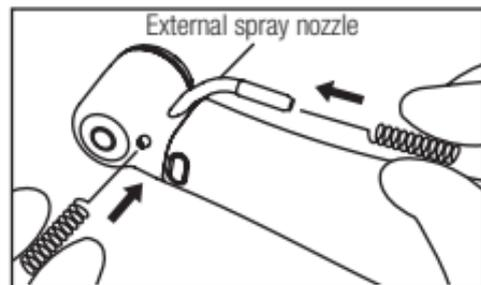

Fig. 22
- 1) When spray nozzle are clogged, or spray does not exit evenly from the nozzle, internally clean the external spray nozzle by using cleaning wire (Fig. 22).